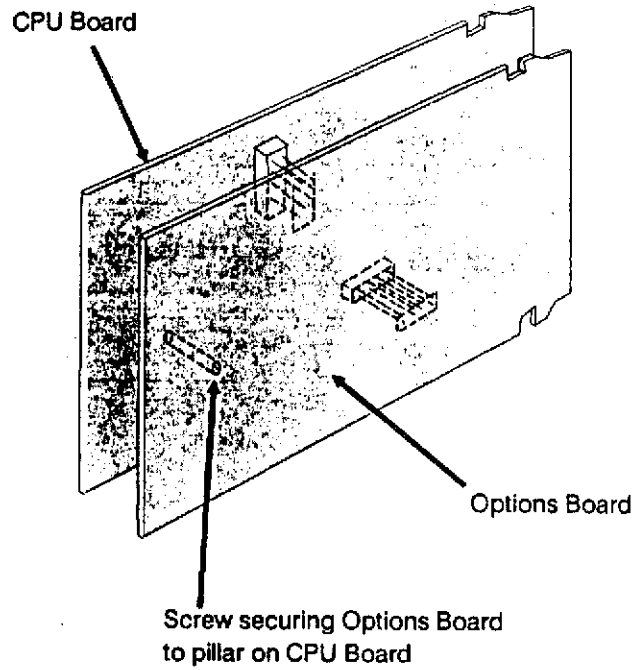

Figure 5-2 Separating the Two PCBs
2. Extract the screw securing the Options Board to the pillar on the CPU Board (see Figure 5-2). Carefully pull the two Boards apart, ensuring that the Boards remain parallel to each other in order that the plugs and sockets linking them are not bent or distorted.